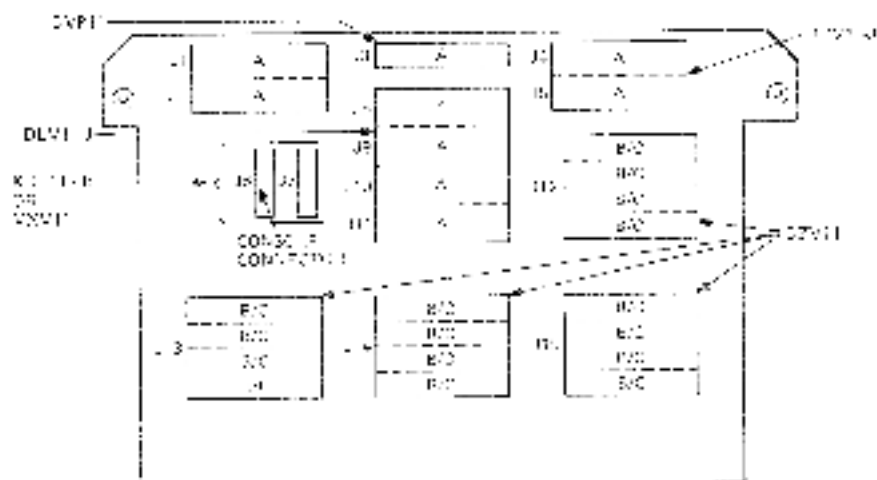

Figure B-9 R349 I/O Distribution Panel
3.7.6.1 Insert Panels and Filter Connectors – The R349 I/O distribution panel has 10 cutouts that provide a place to install up to 15 insert panels (Figure B-9). Mounting locations J6 and J7 accommodate the two KDF11-BA or KDF12-BA serial line connectors (see assembly).